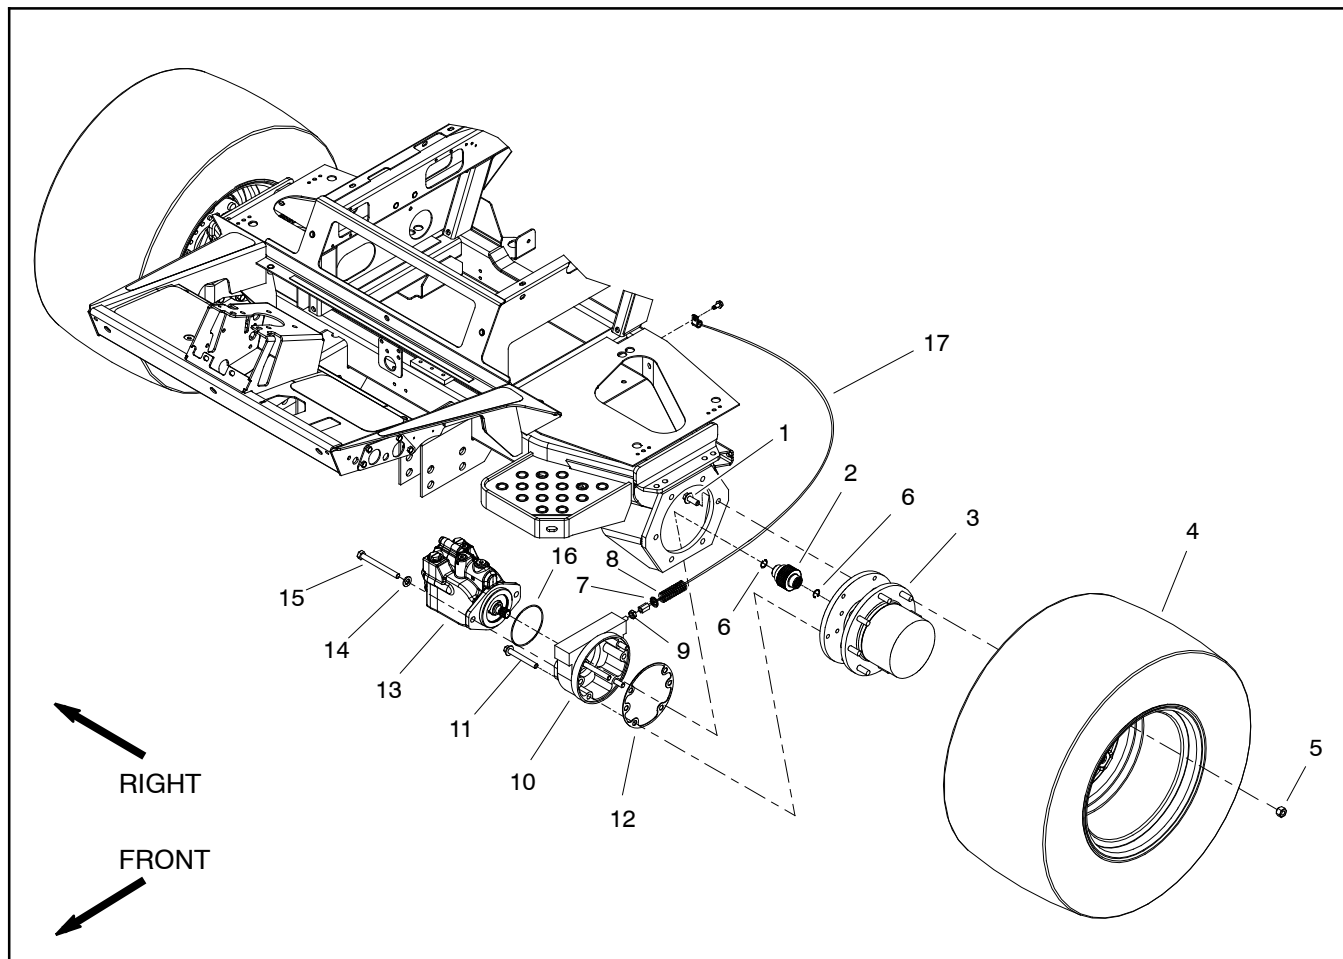
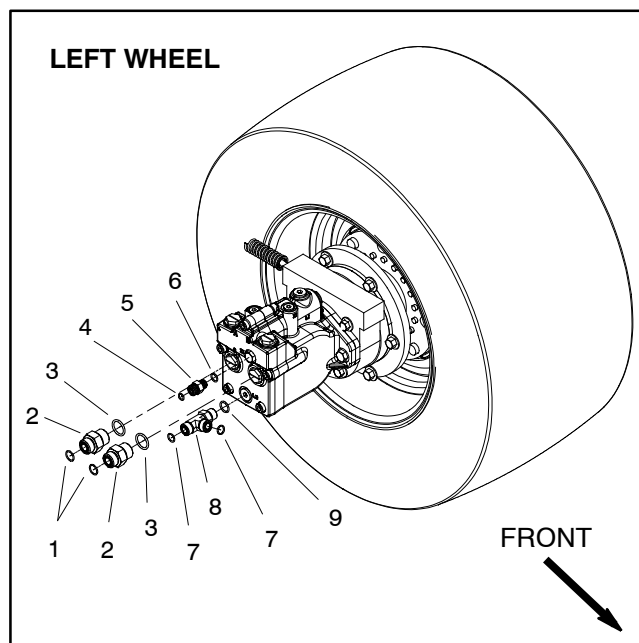

Figure 79
Figure 80
### Removal (Fig. 79)
6. Remove wheel motor using Figure 79 as a guide.
7. Remove and discard O-ring (item 16) from flange of wheel motor.
8. If hydraulic fittings are to be removed from wheel motor, mark fitting orientation to allow correct assembly (Figs. 80 and 81). Remove fittings from motor and discard O-rings.
### Installation (Fig. 79)
1. If fittings were removed from wheel motor, lubricate and place new O-rings onto fittings. Install fittings into motor ports using marks made during the removal process to properly orientate fittings (Figs. 80 and 81). Tighten fittings (see Hydraulic Fitting Installation in the General Information section of this chapter).
2. Place new O-ring (item 16) into flange of wheel motor.